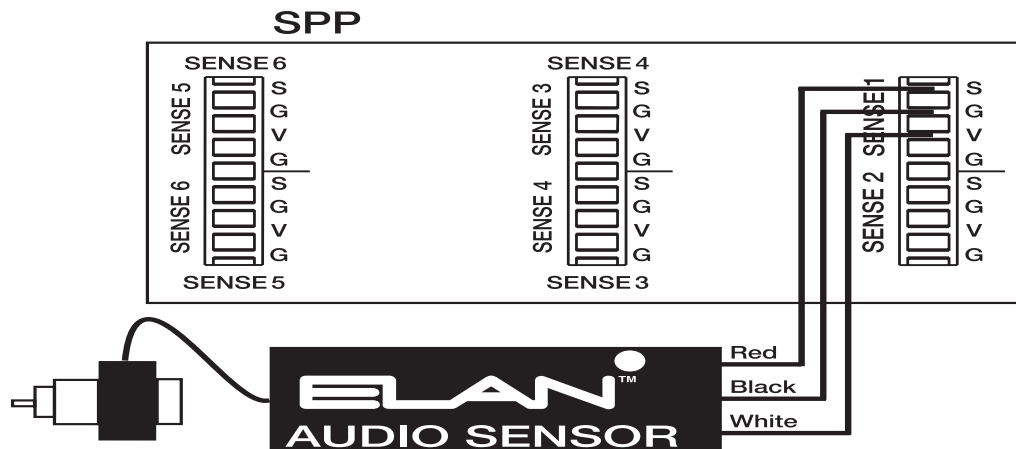

Figure 3-12. Sense Input to SPP Connections
The Sense Trigger Inputs of the S8.6 are primarily for use with VIA! Touch Panels and Olé Touchpads. An ELAN™SENSE Sensor can be connected that will cause VIA! Touch Panels and Olé Touchpads to execute IR or serial commands. Use VIA!Tools setup software to program Trigger Input functionality. Wiring the Sense Inputs consists of punching down Voltage (V), Sense (S), and Ground (G) as shown in **Figure 3-12**.